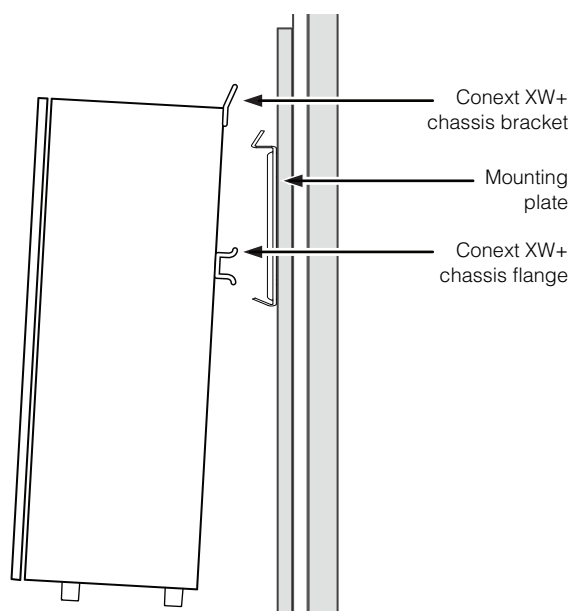

Figure 2-7 Wall-mounting the Conext XW+
1. Align the flange on the back of the Conext XW+ chassis with the bottom edge of the mounting plate, as shown in Figure 2-7.